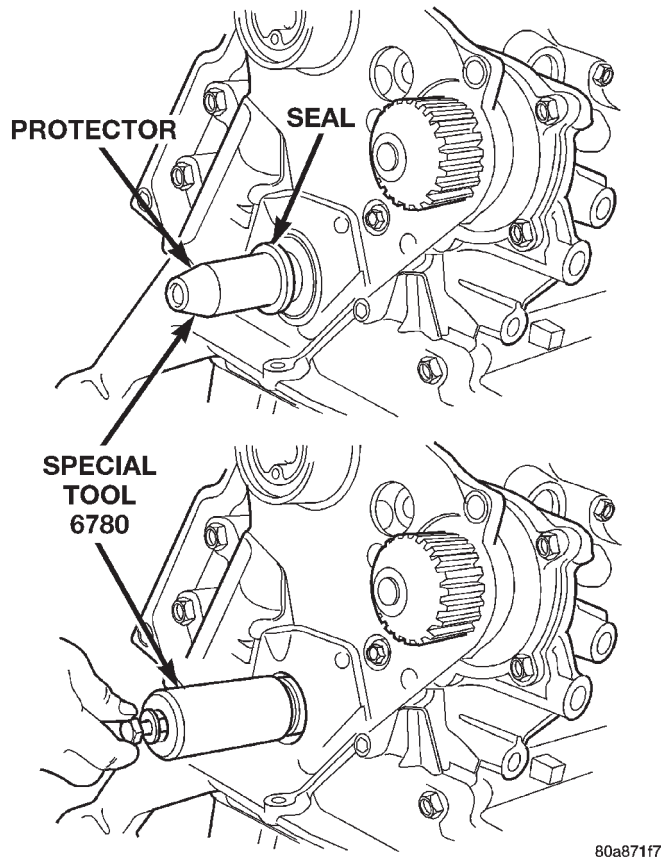

Fig. 67 Front Crankshaft Oil Seal—Installation
(1) Install new seal by using Tool 6780 (Fig. 67).